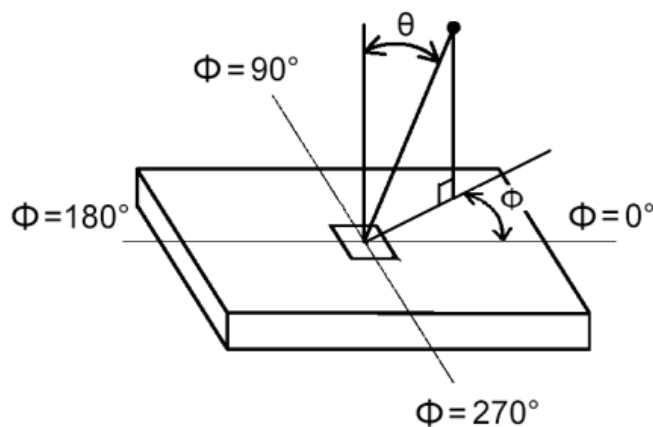

Fig.4-3 Viewing Angle Definition
5. Viewing angle is the angle at which the contrast ratio is greater than 10. The angles are determined for the horizontal or x axis and the vertical or y axis with respect to the z axis which is normal to the LCD surface. For more information see Fig. 4-3. (Optical measurement by SR3)